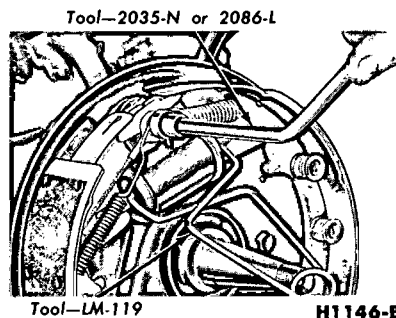

FIG. 8—Retracting Spring Removal
1. With the wheel and drum removed, install a clamp over the ends of the brake cylinder as shown in Fig. 8.
5. On cars equipped with a 6-cylinder engine, remove the secondary shoe to anchor spring with the tool shown in Fig. 8. Unhook the cable eye from the anchor pin. With the same tool, remove the primary shoe to anchor spring. On cars equipped with an 8-cylinder engine, unhook